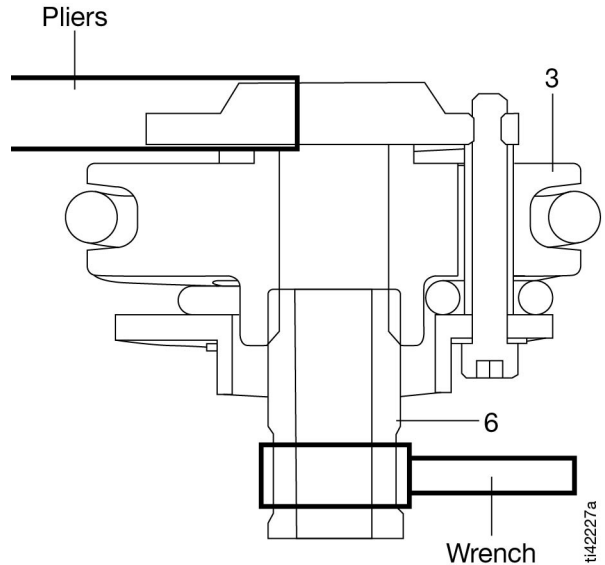

FIG. 3
3. Loosen and remove the cylinder screws (28).
4. Remove the air cylinder (1) from the pump base (16).
5. Inspect the spring (2) and replace, as needed.
6. Use pliers on the air exhaust plate (3a) and a wrench on the piston shaft (6), press down on the washer (4) to compress the spring (5) and create space for the wrench (FIG. 3).
7. Loosen the air valve (3) and remove it from the shaft (6) (FIG. 3).